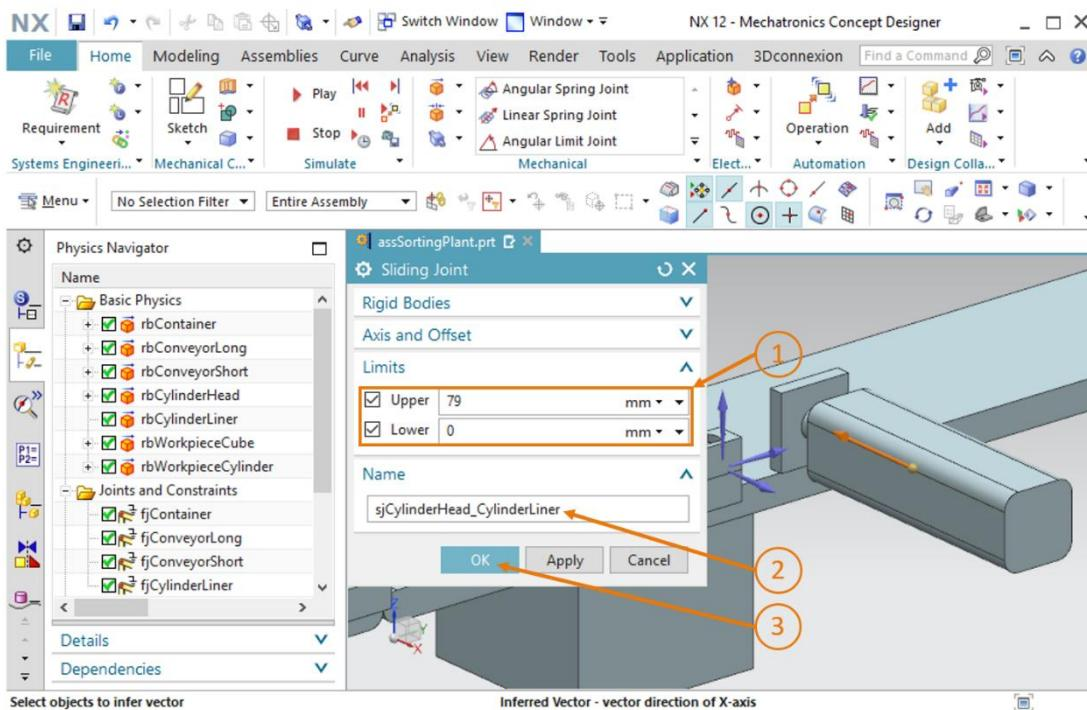

Figure 36: Creating a sliding joint for the ejector – Introducing sliding limits
- You can specify the maximum extension and retraction positions in the "Limits" group. The **Upper Limit** is to be **79 mm** and the **Lower Limit** is to be **0 mm** (see Figure 36, step 1). Enter "**sjCylinderHead_CylinderLiner**" as the name (see Figure 36, step 2) and finish the creation of the sliding joint by clicking the "OK" button (see Figure 36, step 3). The prefix "sj" stands for "sliding joint".